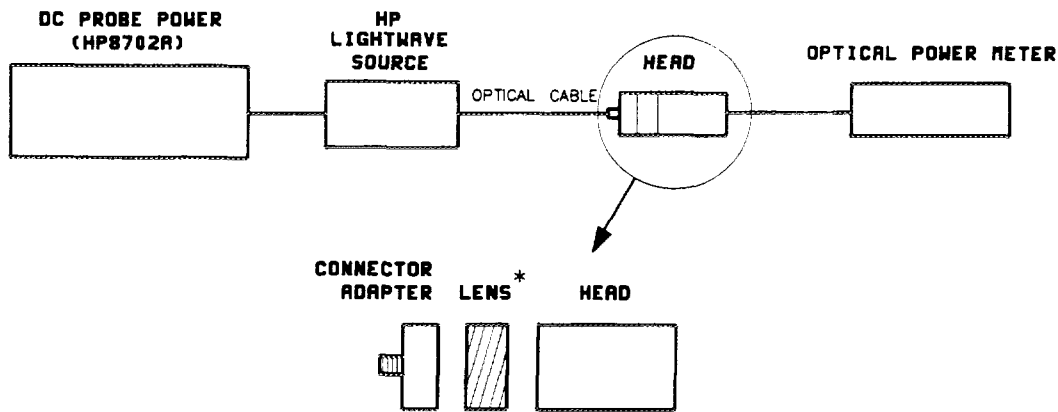

Figure 9. Test Setup
1. Connect the test system as shown in Figure 9 below.